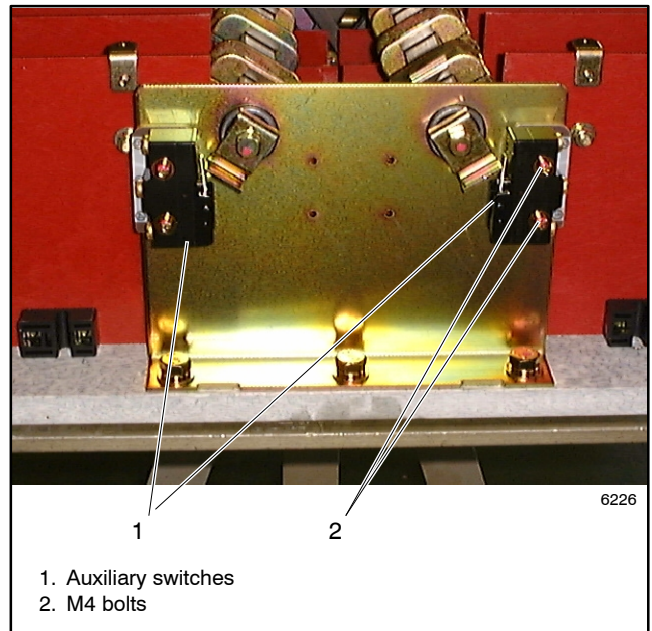

Figure 9-10 Auxiliary Switches
3. Tighten the mounting screws to 0.14 Nm (1 in. lb.), maximum. See Figure 9-10.